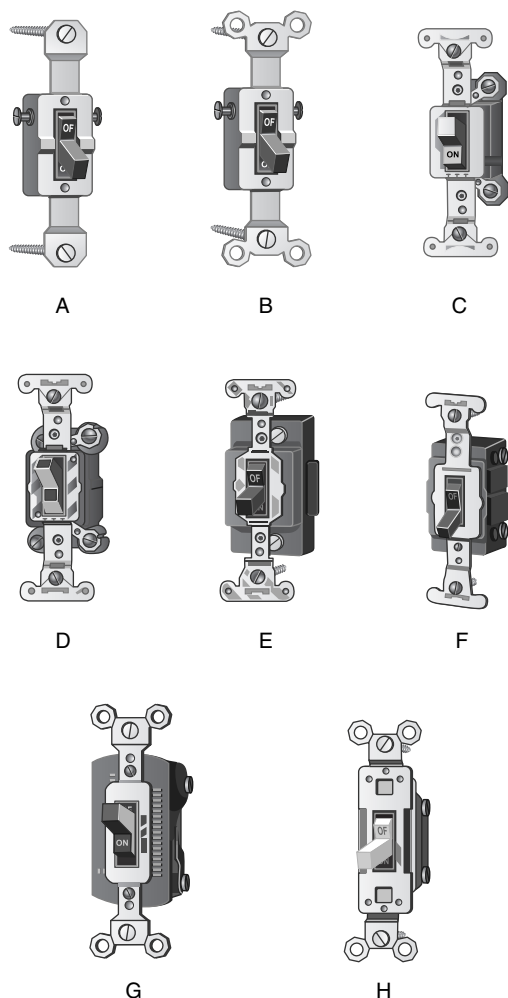

Fig. I-37 Switches for home and office use.
- **Residential toggle switches.** Various shapes are encountered when switches are needed for use in business, industry, or the home. For instance in Fig. I-37, you will find examples of some of those used to switch 120-V ac and 240-V ac in common circuits used in lighting and small motors. Figure I-37A shows a residential toggle switch, rated 10 A on a 125-V line. Note the absence of "plaster ears" near the long screws. Switch B is like A, except that it has wide plaster ears (the extensions around the screw